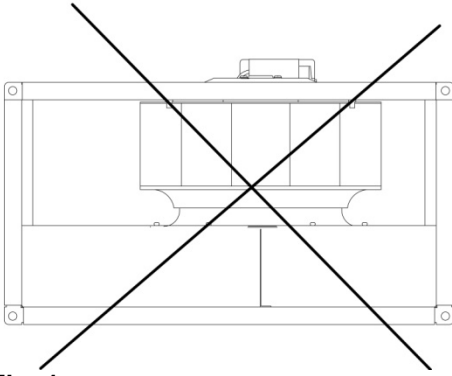

Fig. 1
be carried out by authorised personnel and in accordance with requirements and demands. Electrical connections are made according to the wiring diagram in the terminal box, markings on terminal blocks or on cable. All 3 phase fans are delivered from factory in 400V 3~ connection. Seal any empty cable glands with dummy plugs. The K-fan must be installed with the connection box at the top of the unit ± 90 degrees. If permanent installation is carried out using cables with diameter 12-14 mm, the entrance bush must be replaced (applies to type K, KV, RVF and KVK 125/160). To preserve IP44 the RS fans must not be mounted with the connection box/motor plate upwards (**Fig.1**). Fans with thermal contacts with external leads (TK) must always be connected to external motor protection. Assemble the fan in the direction of airflow (see arrow on unit). The fan must be installed to ensure that any vibration is not transmitted via the duct system or frame of the building. (Suitable accessories such as fast clamps and diffusers are available). Make sure the assembly of the fan is firmly fixed and stable (**Fig 3**). The fan can be mounted in any direction unless stated otherwise. The fans must be installed to ensure that service and maintenance can be performed easily and safely. Disturbing noise can be reduced by installing silencers (available as an accessory). When using frequency regulation an all pole sinus filter must be mounted between motor and frequency controller (version all poles: phase to phase, phase to earth). Fans are meant for continuous use within the temperature range stated. Fans with manual thermal contacts (reset by disconnecting the power, motor protection SP1), must be taken into consideration when connecting surrounding equipment with automatic on/off function. Recommended wiring for KT fans (**Fig 2**).